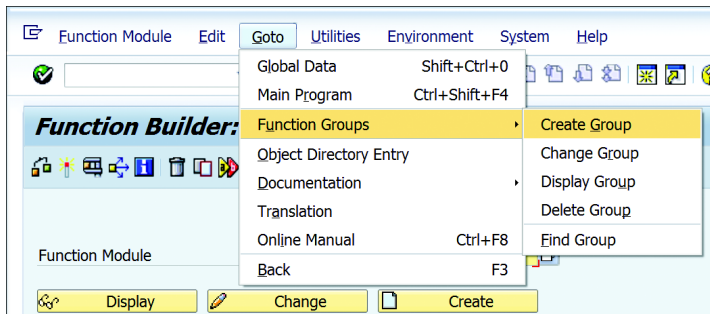

Figure 7.10 Menu Path to Create Function Groups Using Function Builder
2. As shown in Figure 7.10, navigate to GOTO • FUNCTION GROUPS • CREATE GROUP to create a new function group.